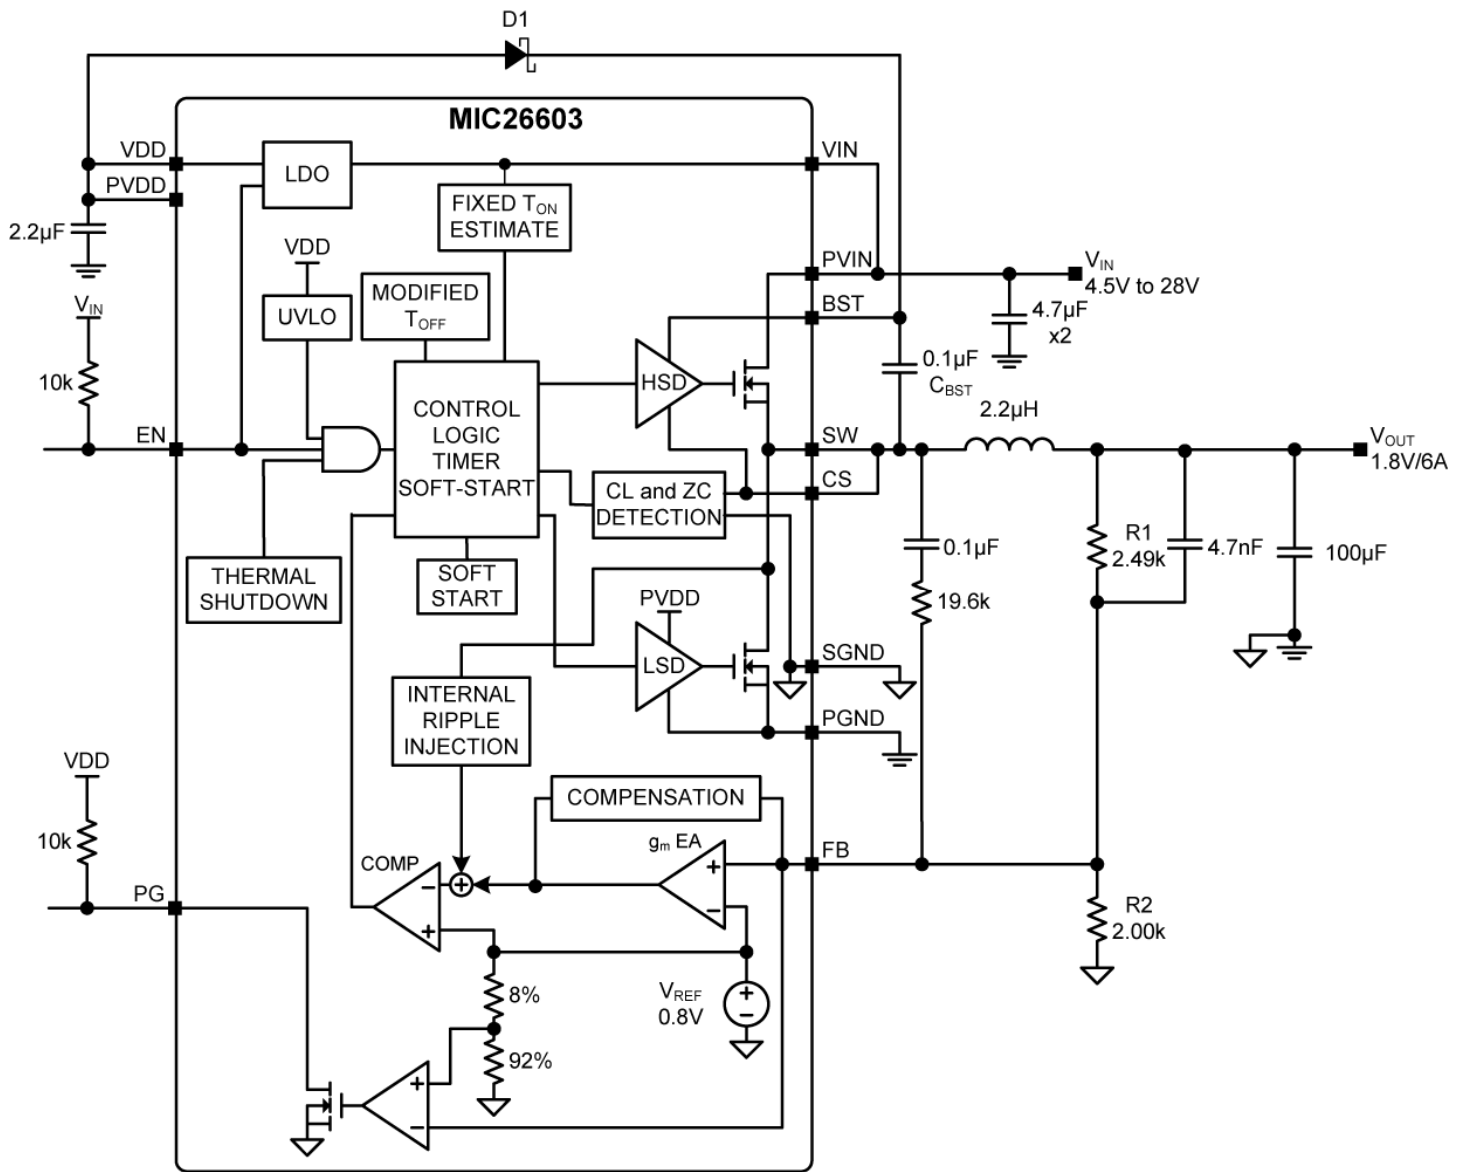

Figure 1. MIC26603 Block Diagram
The MIC26603 is able to operate in either continuous mode or discontinuous mode. The operating mode is determined by the output of the Zero Cross comparator (ZC) as shown in Figure 1.
The Block Diagram (Figure 1) shows a bootstrap circuit, consisting of D1 (a Schottky diode is recommended) and C_{BST} . This circuit supplies energy to the high-side drive circuit. Capacitor C_{BST} is charged, while the low-side MOSFET is on, and the voltage on the SW pin is approximately 0V. When the high-side MOSFET driver is turned on, energy from C_{BST} is used to turn the MOSFET on. As the high-side MOSFET turns on, the voltage on the SW pin increases to approximately V_{IN} . Diode D1 is reverse biased and C_{BST} floats high while continuing to keep the high-side MOSFET on. The bias current of the high-side driver is less than 10mA so a 0.1 μ F to 1 μ F is sufficient to hold the gate voltage with minimal droop for the power stroke (high-side switching) cycle, i.e. $\Delta BST = 10\text{mA} \times 1.67\mu\text{s}/0.1\mu\text{F} = 167\text{mV}$. When the low-side MOSFET is turned back on, C_{BST} is recharged through D1. A small resistor R_G , which is in series with C_{BST} , can be used to slow down the turn-on time of the high-side N-channel MOSFET.